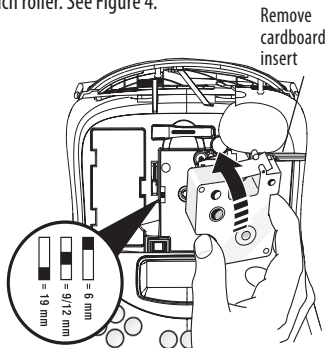

Figure 4
- i** The first time you use the label maker, remove the protective cardboard insert from between the print head and pinch roller. See Figure 4.
2. Set the cassette switch for the size of the tape cassette that you are inserting. See Figure 4.